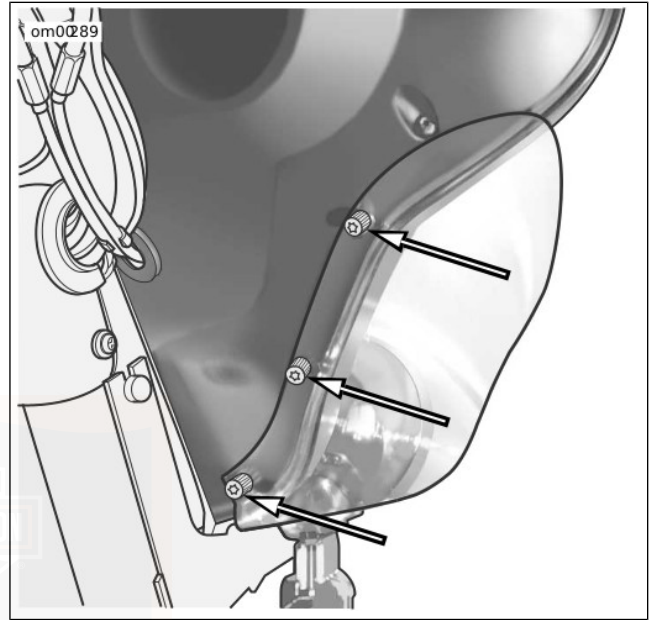

Figure 17. Air Deflector Thumb Screws
1. See Figure 17. To detach the deflectors, remove the three thumb screws.